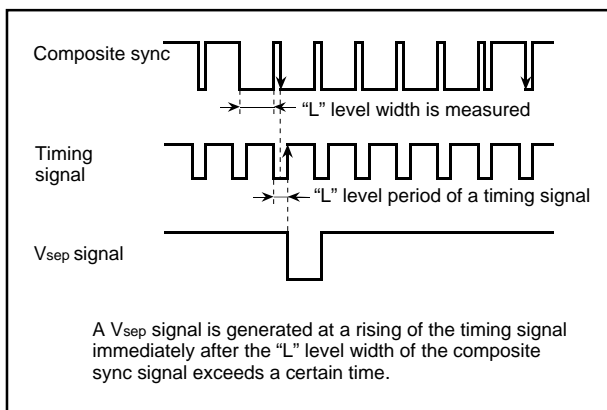

Figure 2.14.6 Vsep generating timing (method 2)
- Method 2 The "L" level width of the composite sync signal is measured. If this width exceeds a certain time, it is detected whether a falling of the composite sync signal exists or not in the "L" level period of the timing signal immediately after this "L" level. If a falling exists, a Vsep signal is generated in synchronization with the rising of the timing signal (refer to Figure 2.14.6).
Figure 2.14.6 shows a Vsep generating timing. The timing signal shown in the figure is generated from the reference clock which the timing generating circuit outputs.